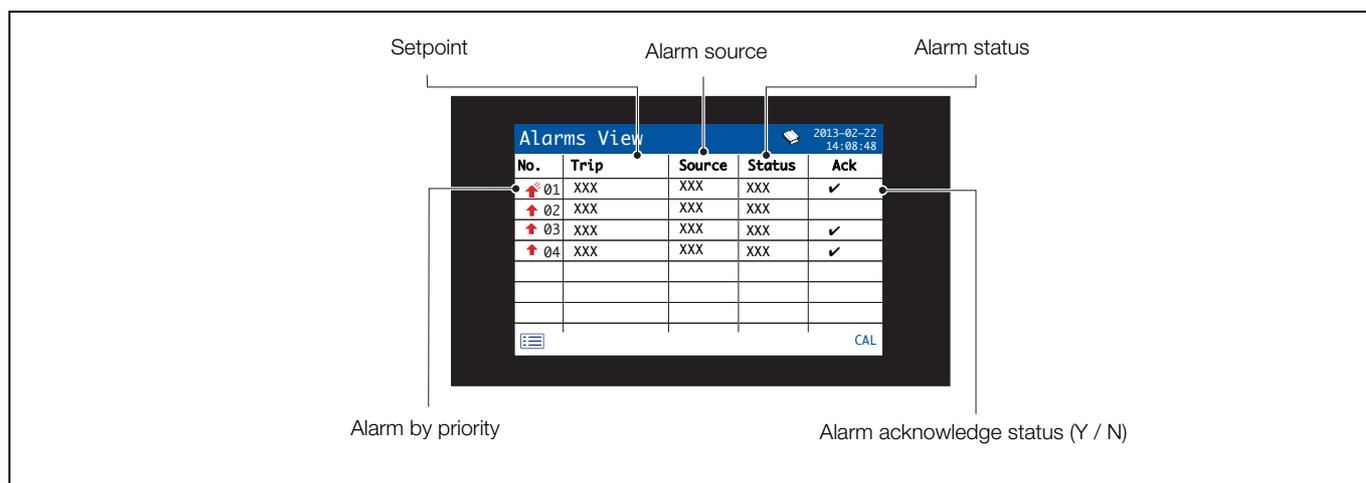

Fig. 9.7 Alarms view
- *Alarms View*: used to display a list of process alarms identified by source and status – see Fig. 9.7.